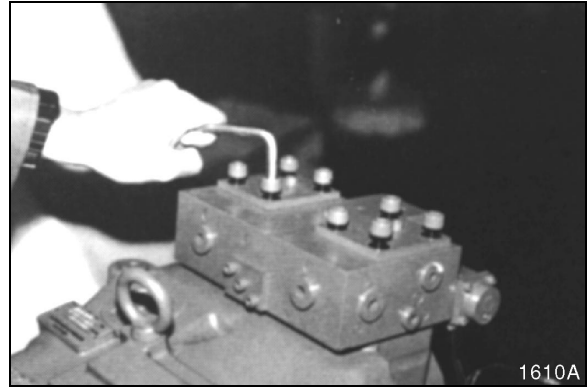

Figure 17
3. Remove regulator cover hex bolts. See Figure 17.